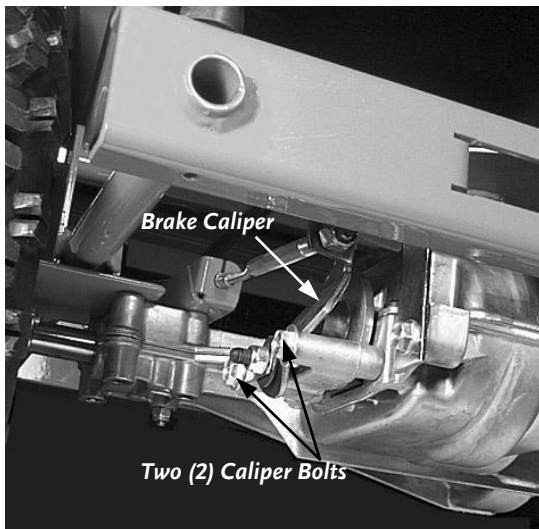
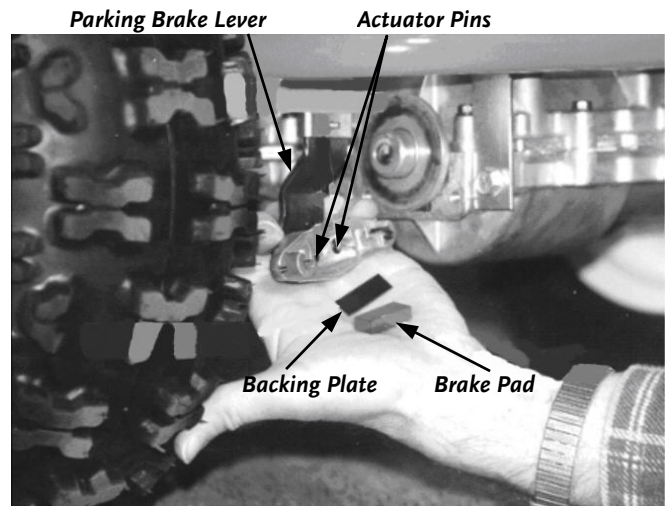

Figure 23
Figure 25
2. Locate the Parking Brake Caliper at the right front of the machine (**Figure 23**). Remove the two (2) Caliper Bolts holding the Parking Brake Caliper with a 1/2" Wrench, and then carefully remove the Caliper.
5. Replace the Caliper Housing and its parts: two (2) Actuator Pins, the Backing Plate, and the second Brake Pad (**Figure 25**). Make sure the Brake Arm Assembly is in the upright position and the recessed cutout on the Caliper is facing up with the Plate to the rear. Be sure that the Parking Brake Lever is pointing up (**Figure 23** on page 26). Reinstall the two (2) Caliper Bolts and be careful not to over tighten them.